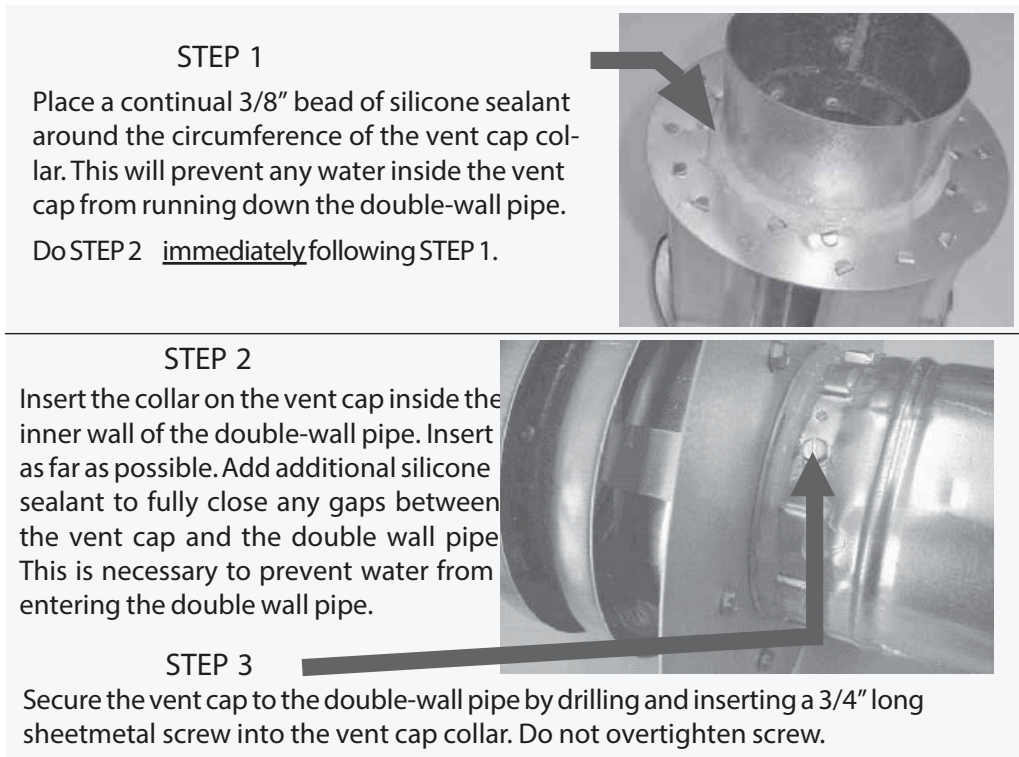

Figure 7. Joining Double-Wall (Type B) Pipe to Vent Terminal Cap (Horizontal or Vertical)
- **To seal the joint between the terminal section of double-wall vent pipe and the vent cap:** Follow the illustrated step-by-step instructions in Figure 7.